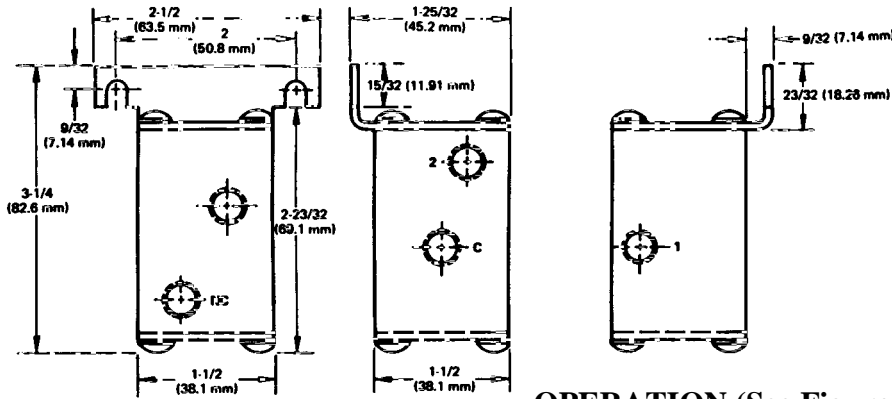

Figure 1
**Dimensions:** ..... See Figure 1
The relay may be installed in any position, but vertical (upright) is recommended. The relay should be securely mounted, using the two slots (clearance for No. 10 screws), provided in the mounting bracket (see Figure 1).